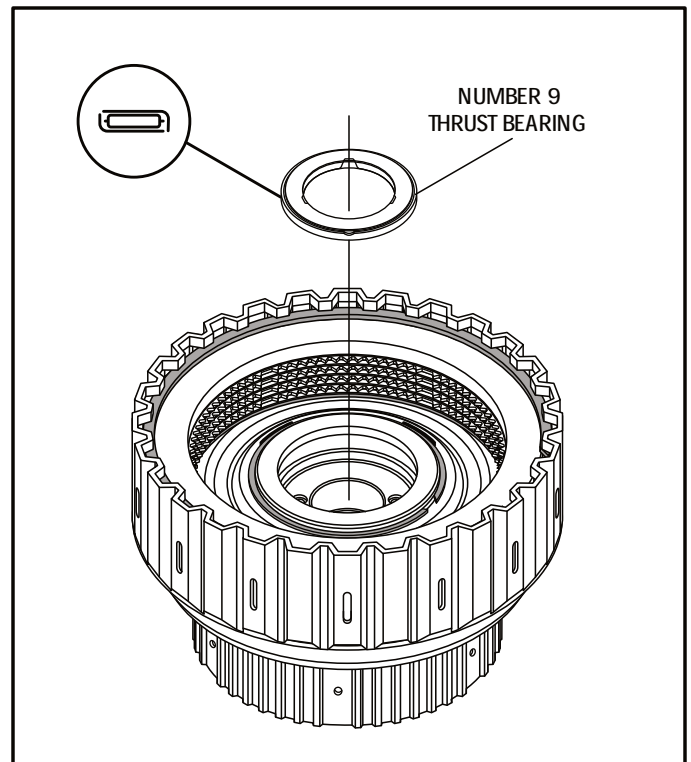

Figure 127
17. Install the number 9 thrust bearing into the forward clutch housing, in the direction shown in Figure 127, and retain with liberal amount of Trans-Jel®.